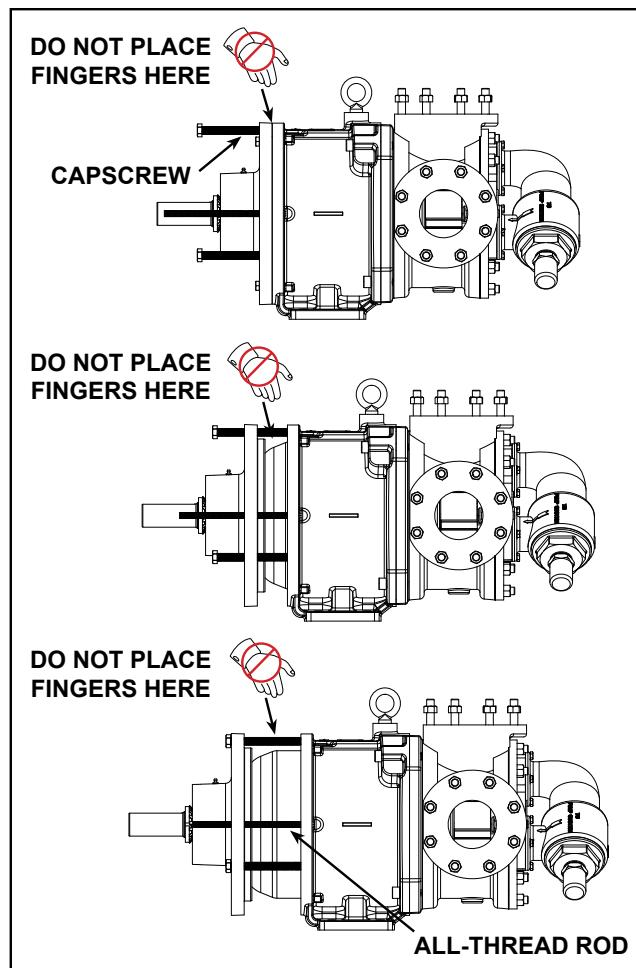

FIGURE 8
9. Use the jackscrews (14) in the bearing housing to separate the inner magnet (57) from the outer magnet (58), see sequence in **Figure 8**. To keep the bearing housing and bracket assemblies properly aligned and for additional safety, it is recommended to use 2 lengths of all-thread rod (12") threaded into opposite capscrew locations in the bracket and slide through the corresponding holes in the bearing housing.
10. Slide the outer magnet assembly out of the bracket (27). Visually inspect the outer magnets. Inspect the magnet assembly for damage or wear; replace if needed. If further disassembly of the bearing housing is required, see “**Disassembly / Assembly of Bearing Housing**”, page 7.
11. Place the canister sleeve (3-810-025-999-00) into the bracket over the canister (59). Remove the socket head capscrews (28 & 28A) securing the bracket to the pump. Support the pump with an overhead hoist and fixture that is in-line with the center of gravity of the pump. Slide the pump out of the bracket.
12. Remove the canister sleeve. Remove the socket head capscrews (54) from the canister. If the canister was not drained in Step 1, it will contain liquid. Use care when removing the canister from the pump by pulling it straight off. Inspect the canister bushing (64) for wear. If the canister bushing needs to be replaced, see “**Installation of Bushings**” on page 7.
13. Inspect the O-ring (65). Do not remove the O-ring from the plate adaptor (67) / canister unless it is damaged, especially if it is PTFE encapsulated. If a new O-ring is required, See “**Pump Assembly**” on page 8.